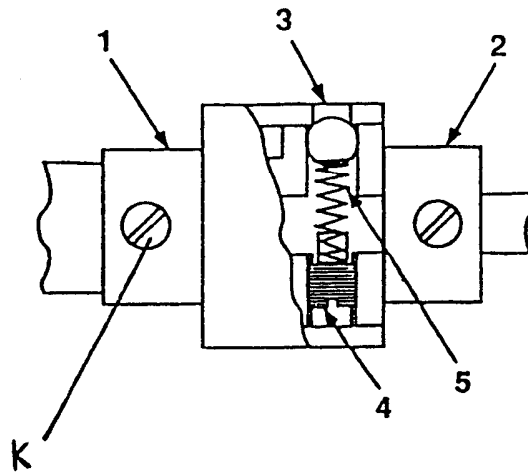

Fig.25
1. If the sewing hook should not be timed correctly, loosen the three set screw (K, Fig.25). Turn the hook shaft to align the hook point with the center of the needle. Re-tighten the three set screw and re-check the timing of the sewing hook.
## ADJUSTMENT OF SPRING TENSION OF SAFETY CLUTCH (Fig.25)